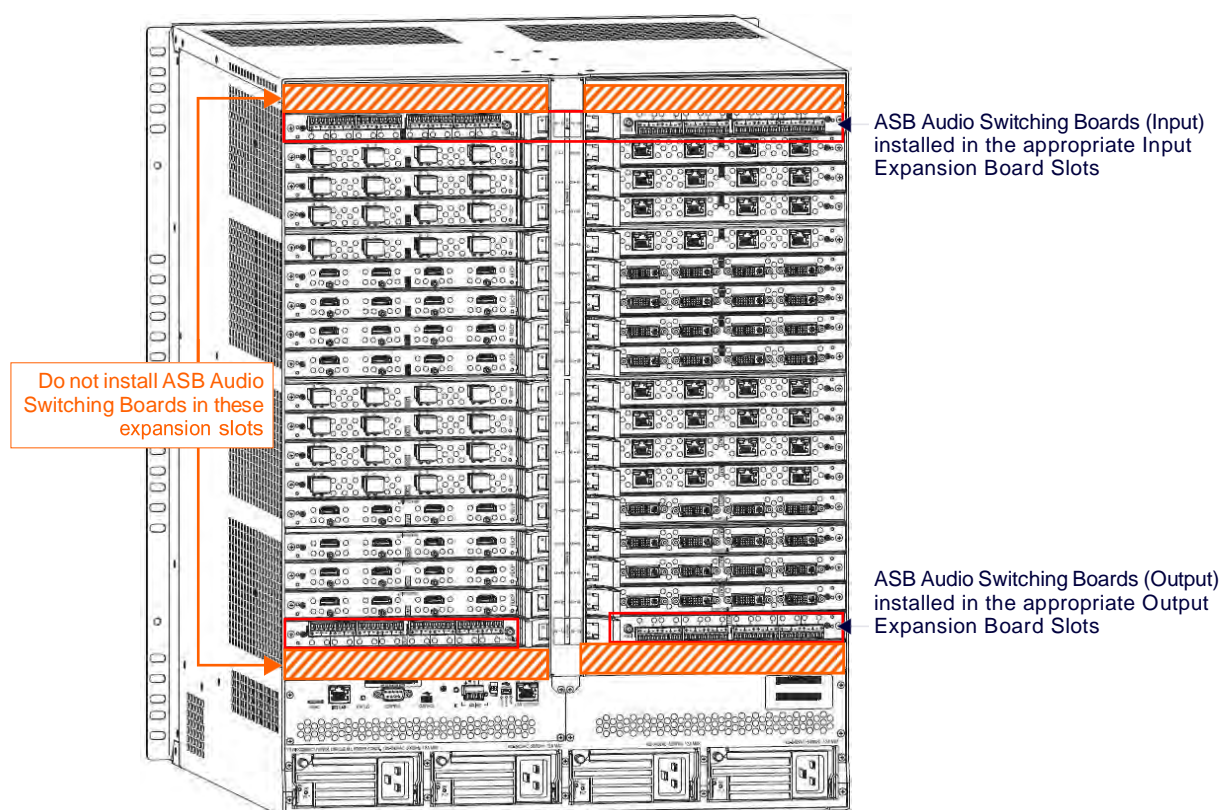

FIG. 90 ASB Audio Switching Boards - Enova DGX 6400 shown
- Enova DGX 6400 Audio Switching Boards *must* be installed in the expansion board slots (see FIG. 90).
- Audio signals can be routed from any of the standard video input board connectors (embedded audio) or from any of the terminal block connectors (audio only) on the Audio Switching Input Board to: (1) any of the standard video output board connectors, (2) any of the terminal block connectors on the Audio Switching Output Board, or (3) a combination of standard video output connectors and terminal block connectors.
- **Enova DGX 6400** enclosures – *Must* use two input boards and two output boards in specific expansion board slots (FIG. 90). Boards are installed horizontally: